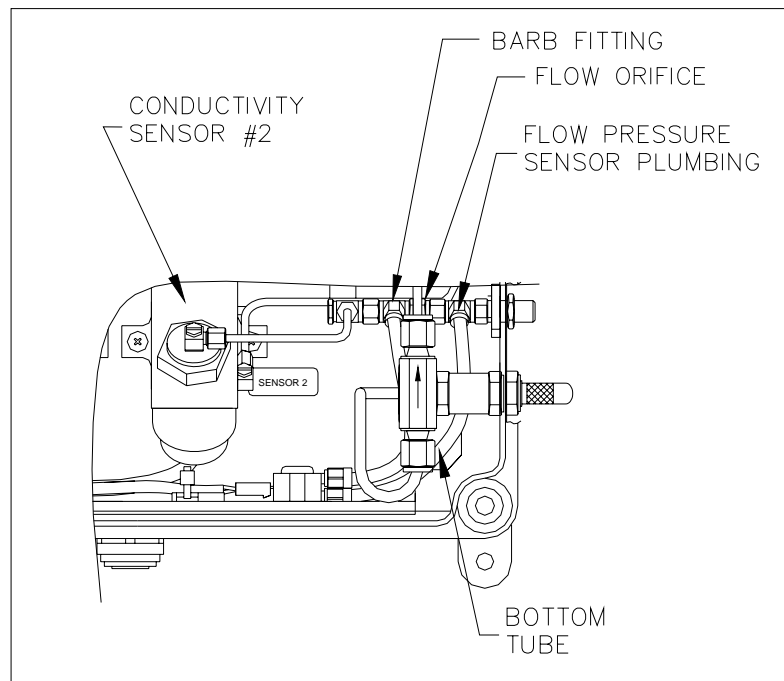

Figure 17. Location of Orifice
3. Using a wrench supplied in tool kit (58 091 520), loosen and remove the street tee fitting from the top of Conductivity Sensor 2 as indicated in Figure 17.